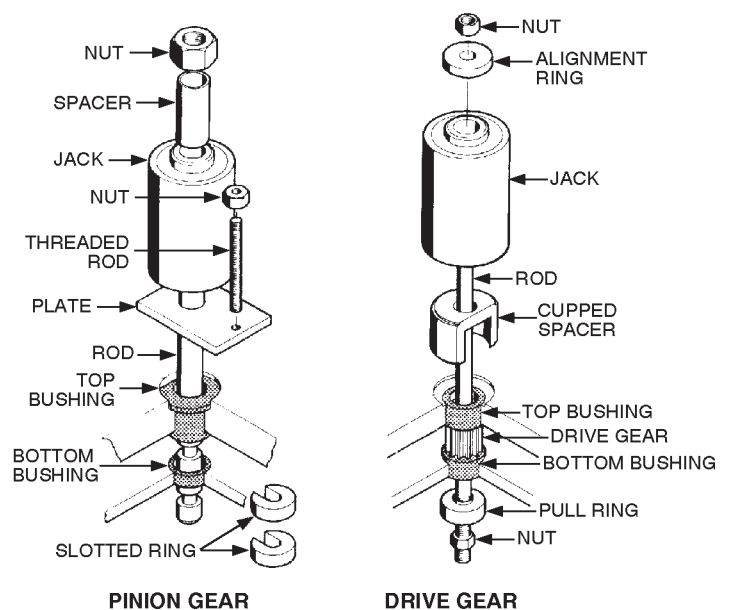

Figure C-9: Bushing Installation
7. To install the bushings, assemble the tool as shown in Figure C-9. The flat side of the ring bushing set and top bushing fits against
4. Reassemble the tool as shown in Figure C-9 and press the gear and bushings into place.